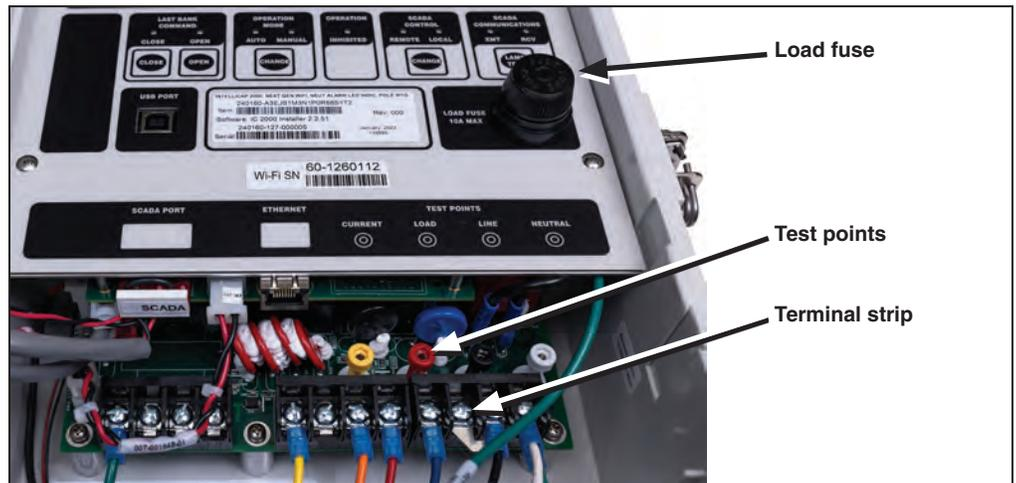

Figure 2. Load fuse on the faceplate.
- STEP 1.** Remove the 10-A load fuse near the lower right corner of the faceplate. See Figure 2.
All IntelliCap 2000 controls have an internal terminal strip; the terminal strip configuration is shown on a label inside the enclosure below the faceplate. The terminal strip wires connect to the meter base, cable connector, or cable wire configurations shown in Figure 2. A meter base with a pole-mounting bracket and meter-ring assembly is available from S&C.